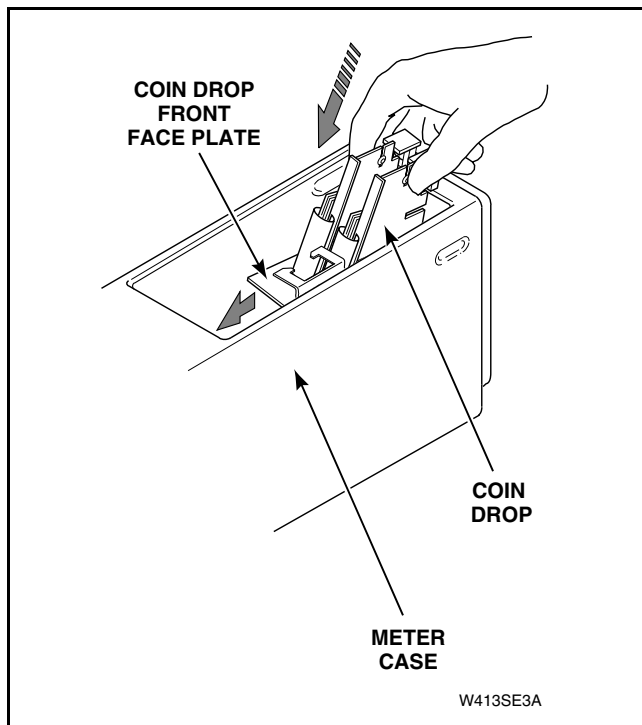

Figure 20
- (1) Gently work new coin drop into meter case with the drop's front face plate down. Refer to *Figure 20*.